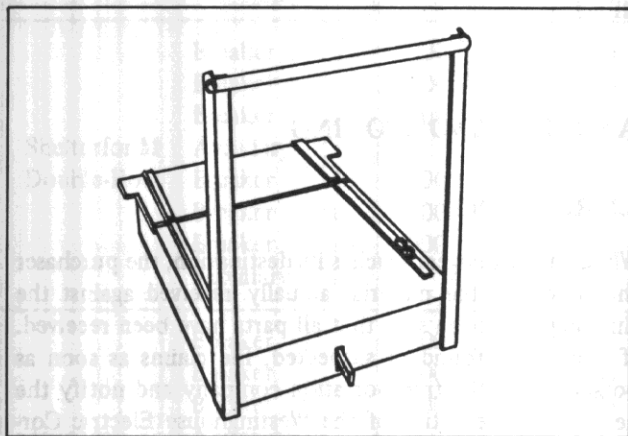

Fig. 39 Transport Truck
1.31.7 A TRANSPORT TRUCK (Fig. 39) is furnished with outdoor Aisle-less installations to facilitate handling